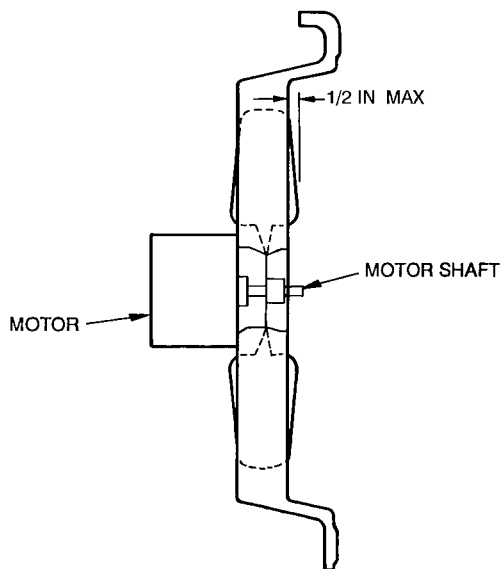

Fig. 21 — Fan Blade Clearance
- b. Make sure that outdoor-fan blade is positioned correctly in fan orifice. Leading edge of outdoor fan blade should be ½-in. maximum from plastic fan orifice. See Fig. 21.